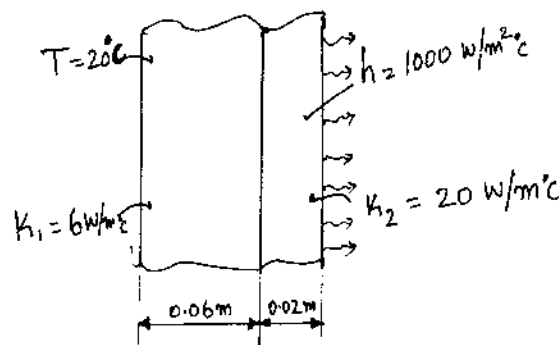

Fig.Q8(b)
b. Determine the temperature distribution through the composite wall, subjected to convection heat transfer on the right side surface, with convective heat transfer co-efficient shown in Fig.Q8(b). The ambient temperature is  $-5^\circ\text{C}$ . Assume unit area. (12 Marks)